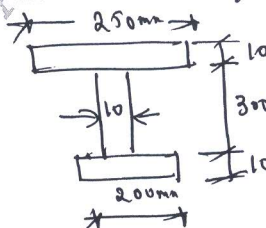

Fig.Q7(c)
- c. An asymmetric I-section is subjected to a bending moment of 20 kN-m. The top flange being in compression. Draw the bending stress variation diagram across the section marking salient points and compute the total moment resisted by the top flange. Refer Fig.Q7(c).